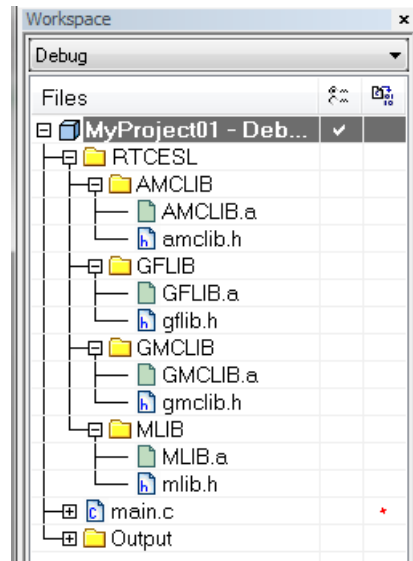

Figure 1-43. Project workspace
4. Click on the newly created node MLIB, and go to the main menu Project > Add Files... See Figure 1-43.
23. Now you will see the files added in the workspace. See Figure 1-43.